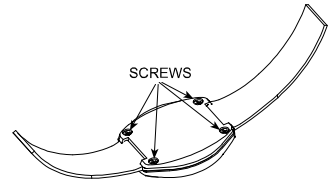

Figure 2. Opening the Case
- B. Loosen and remove the 4 screws shown in Figure 2. Take care not to lose the screws.